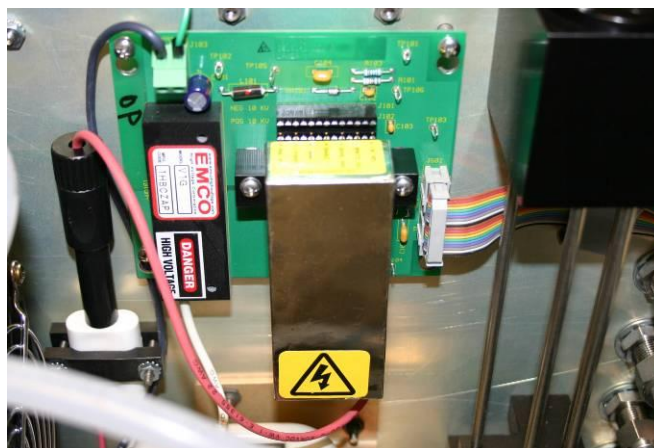

Figure 6. Optional Positive HV Power Supply Installed
7. Connect the HV power supply connector (red wire) onto the white post on the left side of the electrical board (Figure 6).